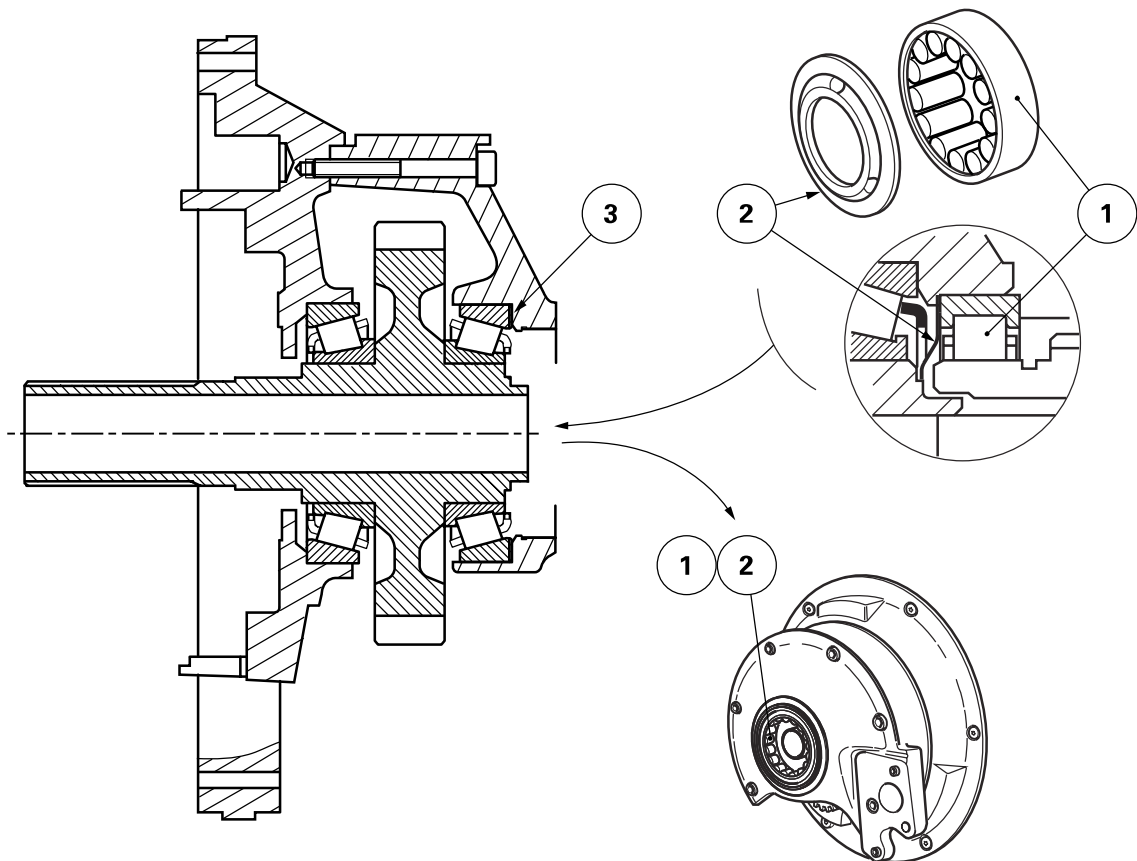
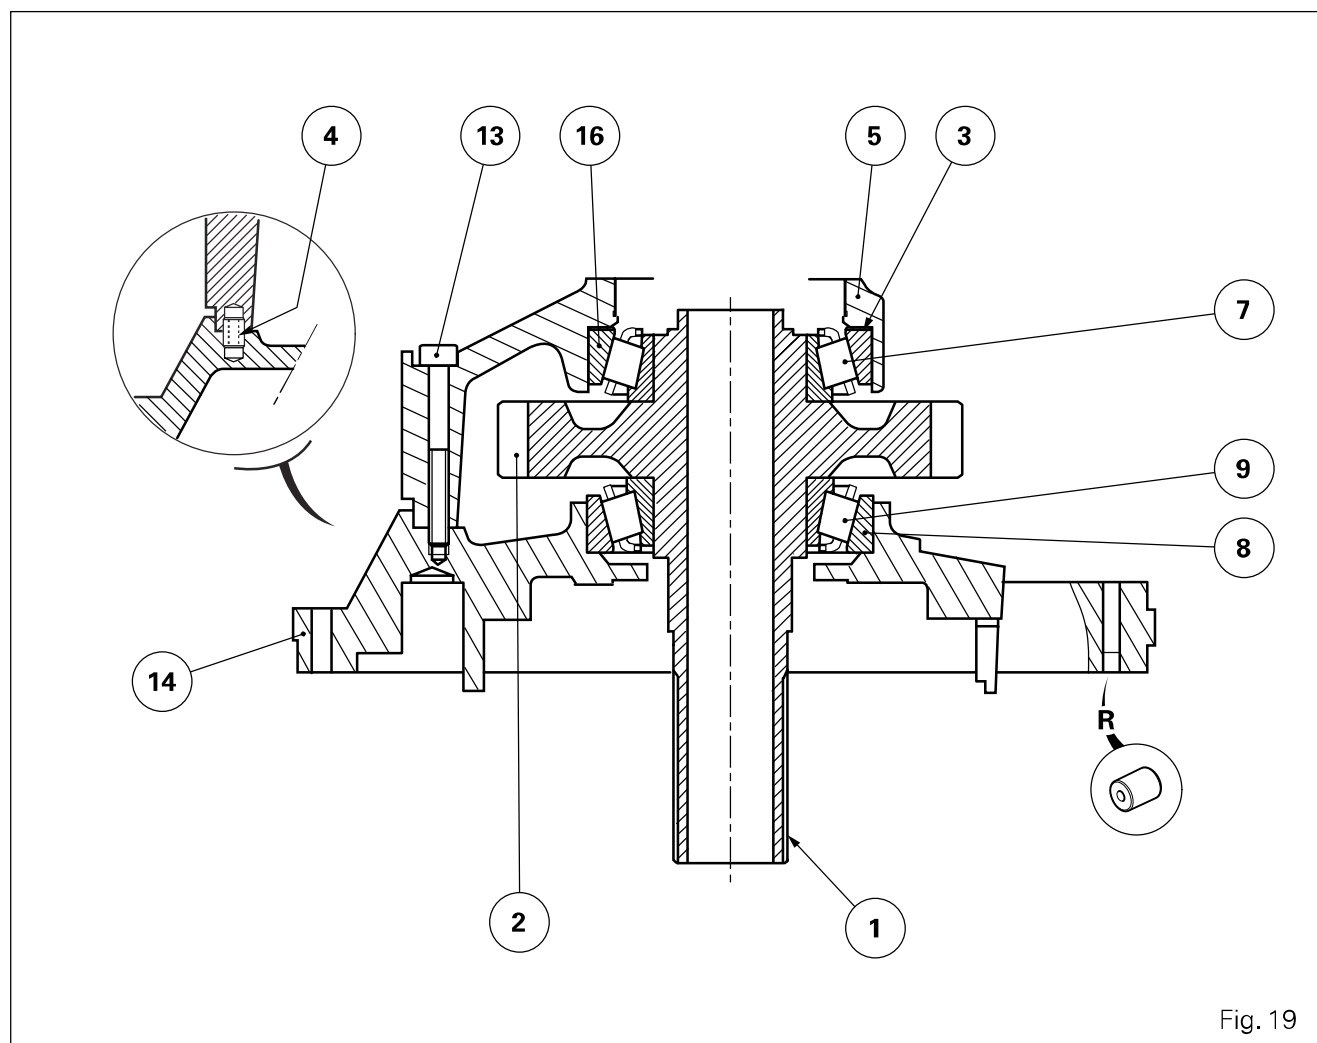

Fig. 18
Fig. 19
The rearward position of the Dynashift, caused by the presence of the rear shuttle clutch in the housing of the unit, limits the space available at the rear of the input unit. This is why the secondary shaft (1) and the pinion (2) are machined as a single component (Fig. 19).
Disassembly (Fig. 19)
106. Drive out the roller bearing (1), the gearbox front intermediary shaft support (see section 5G01). Take off oil deflector (2) and discard it if necessary (Fig. 18).
Reassembly (Fig. 19)
Shimming the shaft (1) (Figs. 19 - 20)
- The principle consists in determining a thickness of shims (3) to fit between the bearing cup of bearing (16) and casing (5) (Fig. 19).
- It is recommended to remove oil deflector (2) (Fig. 18) in order to avoid any interference between it and the shaft (1) (Fig. 19).
127. Turn the oil deflector (2) in accordance with Fig. 18 and insert the roller bearing (1) in thrust against the unit housing.